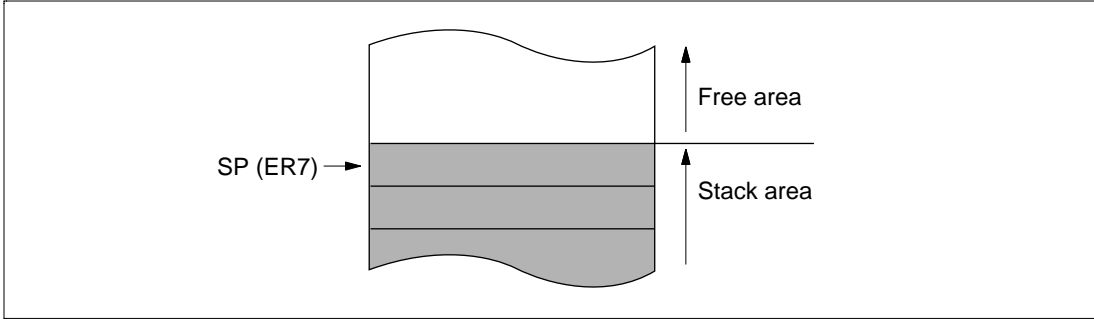

Figure 2.5 Relationship between Stack Pointer and Stack Area
General register ER7 has the function of stack pointer (SP) in addition to its general-register function, and is used implicitly in exception handling and subroutine calls. Figure 2.5 shows the stack.